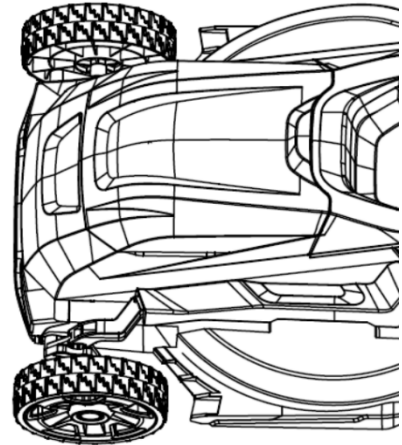

Fig. 5C
4. Close the battery door. (Fig.5C)